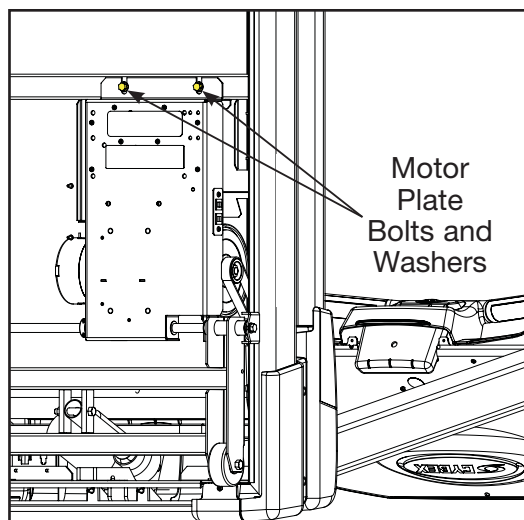

Figure 15
A. Using a 1/2" open end wrench remove the two motor plate bolts. See Figure 15.